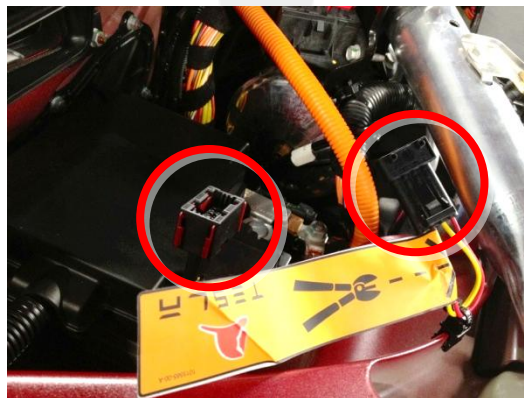

Figure 5
9. Disconnect the first responder loop (X536). Do not cut the loop; disconnect it as shown in Figure 5.